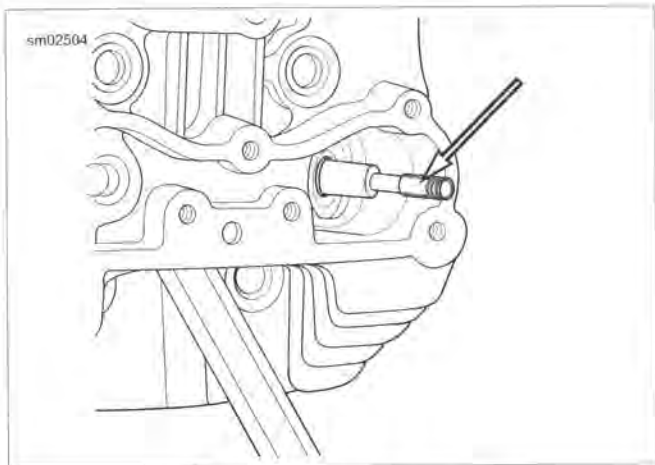

Figure 3-46. Plastic Capsule
7. See Figure 3-46. Hold valve against the valve seat. Slide plastic capsule over valve stem tip and keeper groove.